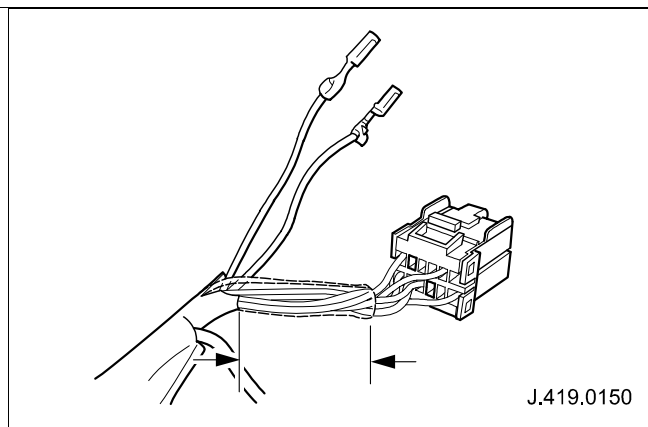

Fig. 2
- 4 Cut and remove approximately 15mm of heat shrink tubing from HUC electrical harness for access. (See Fig. 2)